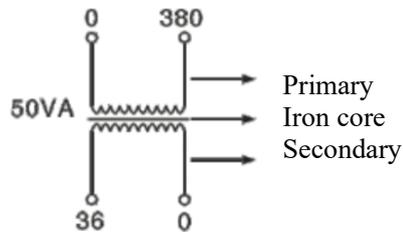
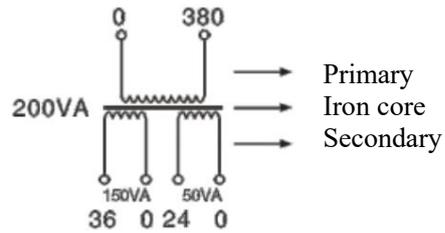
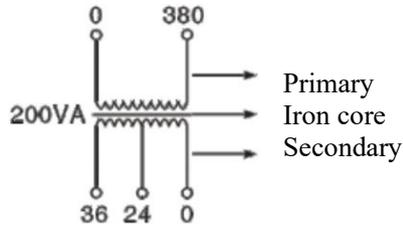
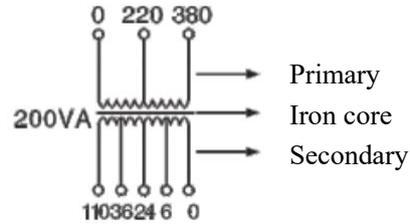

Fig. 1 Single winding
Fig. 2 Discrete winding
Fig. 3 Hybrid winding
Fig. 4 Continuous winding with a center tap
3.2.2 The coil of this series of transformers can accommodate all rated capacities when there is only one winding in the primary and secondary winding; if there are multiple windings, each winding shall carry the given capacity; however, the sum of the capacities of all windings shall not exceed the total capacity, as illustrated in Fig. 1, Fig. 2, Fig. 3 and Fig. 4.
3.2.3.1 The Fig. 1 shows that for BK-50 type, the capacity is 50VA, the input voltage is 380V, and the output voltage is 36V, because the primary and secondary sides have only one winding, and this winding can carry full capacity of 50VA.
3.2.3.2 For example, Fig. 2 shows that for BK-200 type, the capacity is 200VA, the input voltage is 380V, and the output voltage is 36V, 150VA and 24V, 50VA. Because the primary side has only one winding, this winding shall carry the rated capacity 200VA, and the secondary side has two separate single windings, and the capacity of each winding has been indicated and they can carry their own capacity respectively, but the total capacity is 200VA.
3.2.3.3 For example, Fig. 3 shows that for BK-200 type, the capacity is 200VA, the input voltage is 380V, and the output voltage is 36V, 24V. Because the primary side has only one winding, the capacity of this winding is the rated capacity 200VA; there is a center tap in the secondary winding, so that only when the maximum voltage 36V of the secondary side is used separately, the 200VA load can be carried. If there is 24V, the 200VA load cannot be carried, but only 133VA load is carried. Because the total current on the secondary side is  $I_2 = \frac{P_e}{U_2} = \frac{200VA}{36V} = 5.55A$ , the capacity when the 24V is used separately is  $24V = 24V * 5.55A = 133VA$ . when 36V and 24V are both used, the sum of the currents shall not be greater than 5.55A. In a word, regardless of whether the output voltage is used separately or two sets are used simultaneously, the sum of the load currents cannot exceed the rated current of the transformer.
3.2.3.4 For example, Fig. 4 shows that for BK-200 type, the capacity is 200VA, the input voltage is 380V, 220V, and the output voltage is 110V, 36V, 24V, 6V. Fig. 4 shows that there is a center tap in primary and secondary windings. The maximum operating current of the primary winding is  $I_1 = \frac{P_e}{U_2} = \frac{200VA}{380V} = 0.526A$ , so regardless of whether the 220V or 380V is used, its current cannot exceed 0.526A; even when the 380V is used, the capacity of this transformer is 200VA; when the 220V is used, the maximum capacity of this transformer is  $\frac{200VA}{380V} \times 220V = 116VA$ , so that a 200VA transformer becomes a 116VA transformer; at the same time, the secondary capacity is reduced to 116VA. The maximum working current of the secondary winding depends on the working situations of the primary winding; if the primary winding is connected to the 380V power supply, at this time the voltage of the transformer shall be 200VA, so that the current of the secondary winding shall be  $I_2 = \frac{P_e}{U_2} = \frac{200VA}{110V} = 1.8A$ .
6.1 Before purchase, estimate the total capacity of the electrical appliances you use, and select the transformer with a certain capacity by reference with the structure shown in Fig. 1 to Fig. 4 to ensure that the transformer is not burnt at the instant start.
7.1 Select an appropriate product according to the model, specification, capacity, primary and secondary voltage, and capacity allocation of the secondary voltage or by reference with the examples shown in Fig. 1 to Fig. 4.